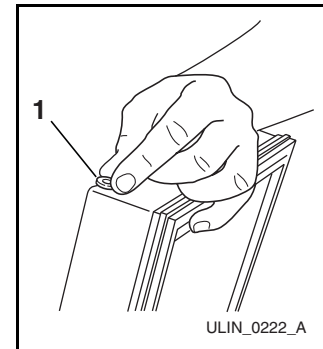

Figure 35
- Relocate plastic spacer/bushing on bottom of door to the opposite side (**Figure 35**). Clean out bushing hole in door bottom if necessary.